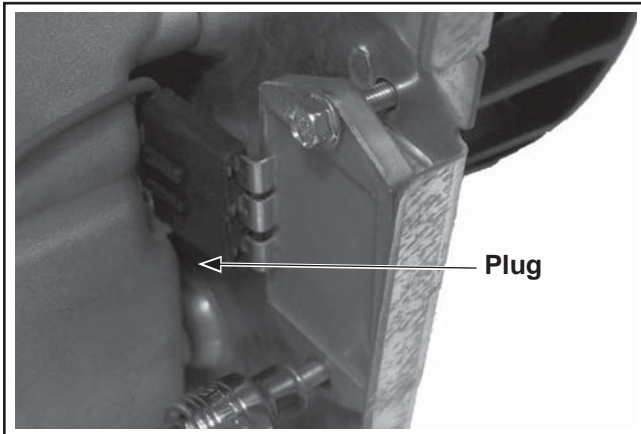

Figure 8-23. Removing Rectifier-Regulator.
3. Remove the two screws securing the rectifier-regulator to the backing plate and disconnect the plug. See Figure 8-23.